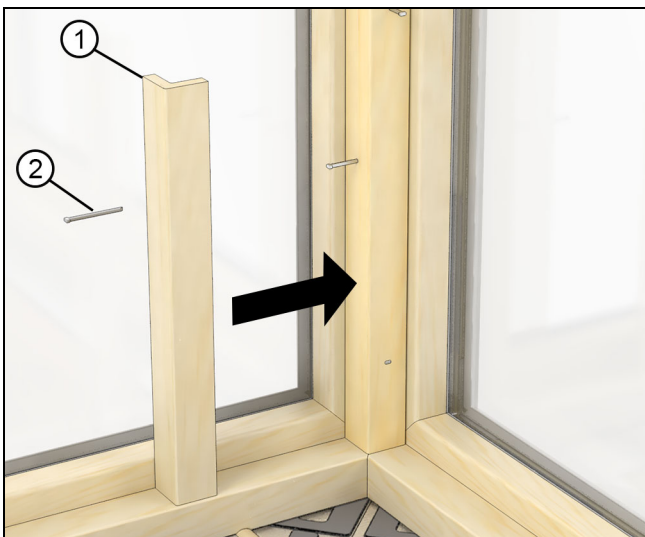

Figure 47
14. Measure, cut and dry fit the interior wood cover over the miter. Fasten the cover to the mitered frame using a method appropriate for your situation. See Figure 47.